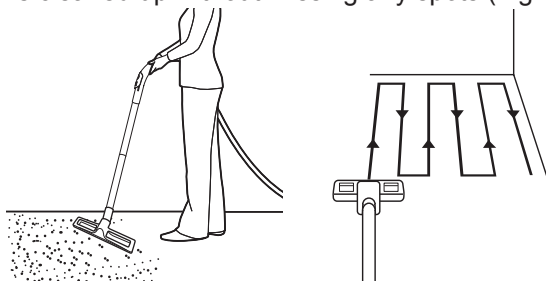

Fig. 22
- > Attach the extension tube(s) (10) onto the hose handle (9a) if required.
- > Move in slight overlapping rows. The most effective pattern is straight lines along one of the sides. This will keep the rows even and ensures that the entire working surface is cleaned up without missing any spots (Fig. 22).